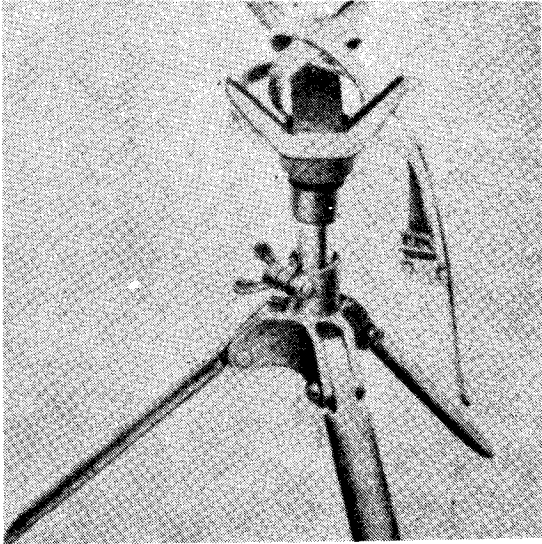

Figure 6 -Tripod M14 With Strap
a. Tripod M14 (fig. 6) provides a rest for the Telescope M48 and steadies it when in use. The telescope rests in the cradle of the tripod and is secured by a webbing strap and buckle. A socket-and-ball connection between the tripod cradle and the leg assembly permits movement of the telescope. A clamping nut holds the telescope at any required angle. With the folding legs of the tripod fully ex-